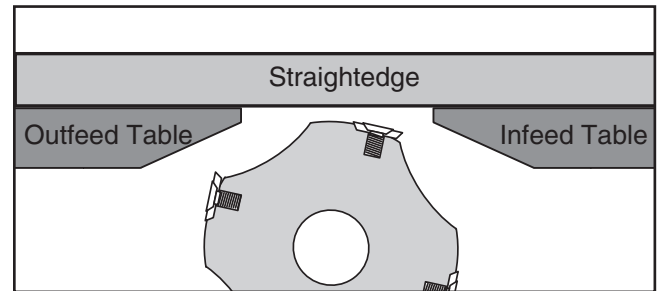

Figure 44. Example of infeed and outfeed table height set evenly.
- Rotate cutterhead so knives/inserts will not interfere with straightedge, then place straightedge on infeed and outfeed tables and adjust infeed table even with outfeed table, as shown in **Figure 44**.